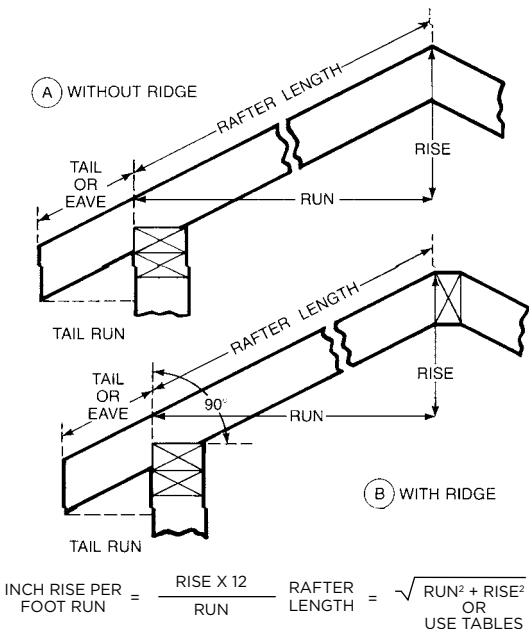

FIG. 3 The Common Rafter.
STEP 1. OBTAIN RAFTER RUN: Measure or calculate the horizontal distance the rafter will span, starting at the outside of the wall on which it will rest. Include any boarding on the wall if it extends to the wall top plate (see Figure 3).